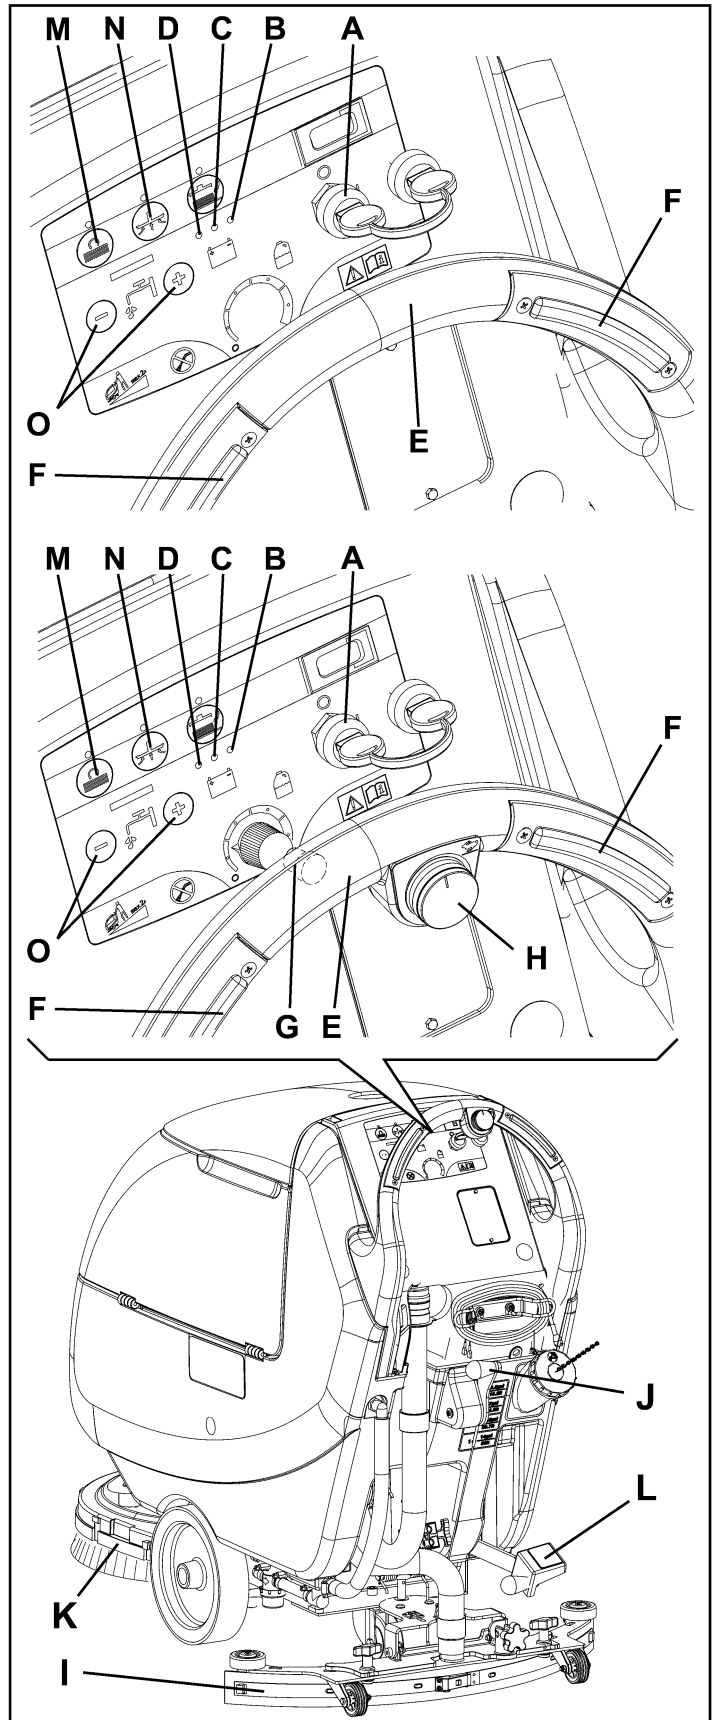

Figure 16
2. Insert the ignition key (A, Fig. 16) and turn it to "I".